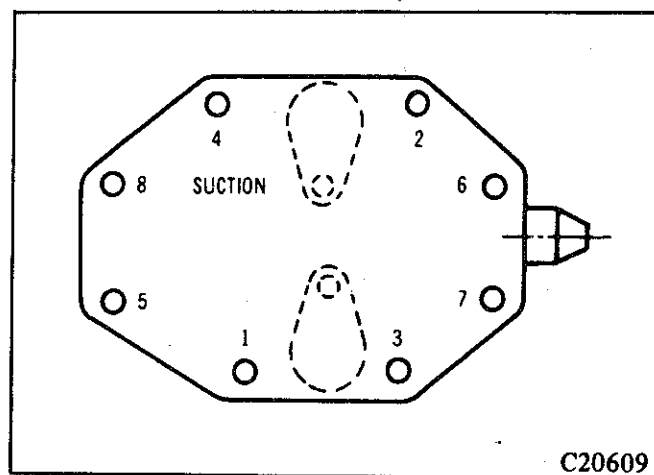

Fig. 74—Tightening sequence
(11) Install the valve plate with a new gasket on to the compressor, ensuring that the recess in the valve plate assembly faces rearward and the valve plate discharge valves face up.
(12) Install the cylinder head with a new gasket, ensuring that the recess in the cylinder head faces the suction side. Tighten bolts to specified torque in the correct sequence — refer Fig. 74.